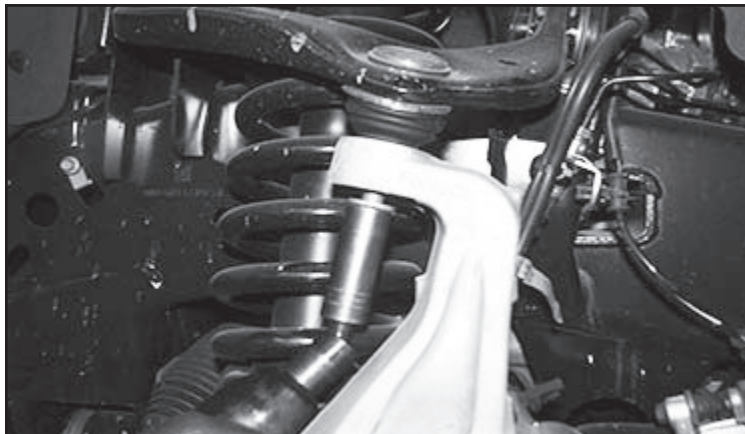

FIGURE 1 - STEP 2
2. Loosen the upper ball joint nut and carefully strike the knuckle with a hammer until it comes loose from the control arm. Save hardware. **SEE FIGURE 1**